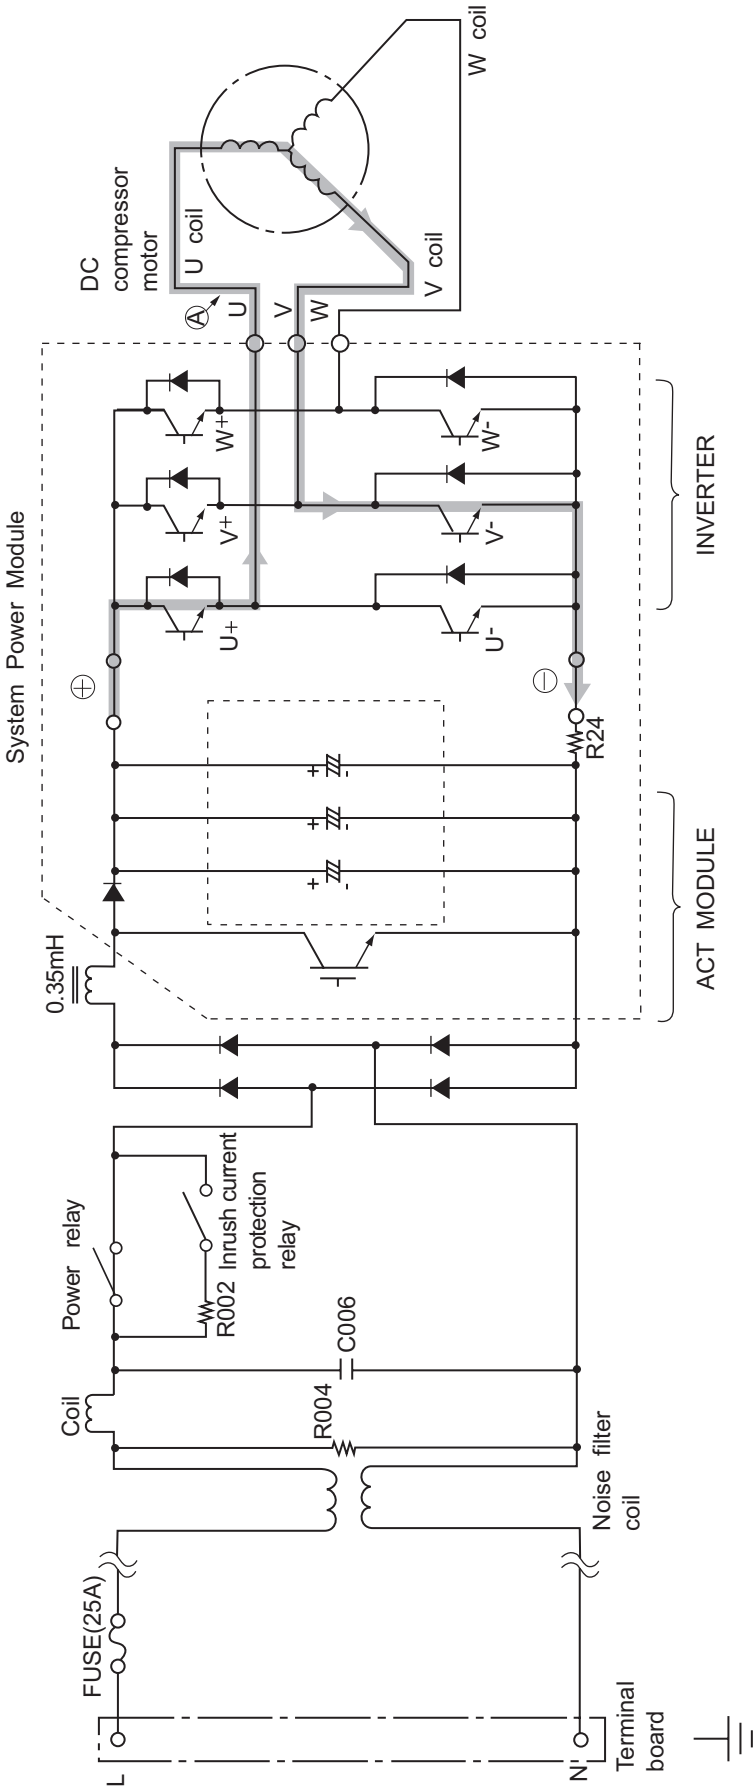
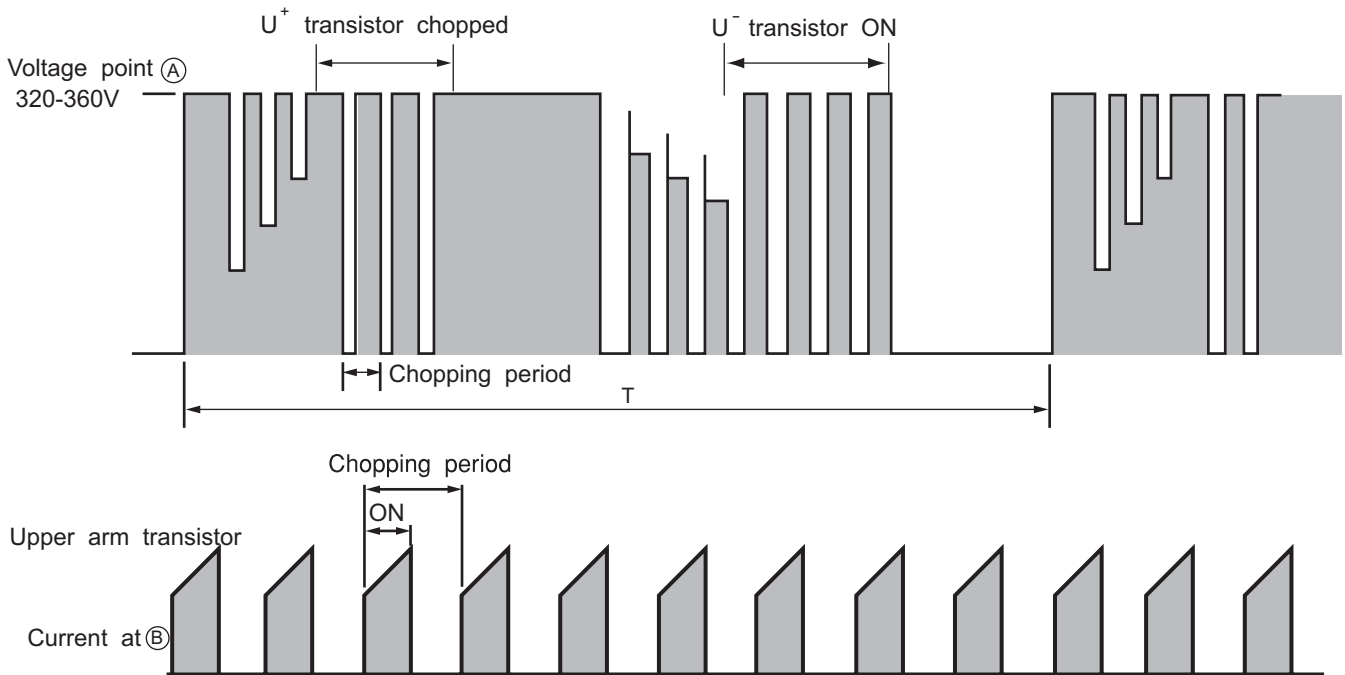

Fig. 3-1 System power module circuit (U⁺ is ON, V⁻ is ON)
Fig. 3-3 Voltage waveform at each point
- Fig. 3-1 shows the system power module and its peripheral circuits. (Current ACT module and power module are combined into one unit.) The three transistors on the positive ⊕ side are called the upper arm, and the three transistors on the negative ⊖ side, the lower arm.
※ At point E: U^+ is ON, V^- is ON (circuit in Fig. 3-1)
- Fig. 3-3 shows voltage / current waveform at each point shown in Figs. 3-1 and 3-4. First half of upper arm is chopper, second half is ON, and first half of lower arm is chopper, second half is ON.
- When power is supplied $U^+ \rightarrow U^-$, because of that U^+ is chopped, current flows as shown below; ⑥
- (1) When U^+ transistor is ON: $U^+ \text{ transistor} \rightarrow U \text{ coil} \rightarrow V \text{ coil} \rightarrow V^- \text{ transistor} \rightarrow \text{DC current detection resistor} \rightarrow \text{Point ⑥}$ (Fig. 3-1)
- Since current flows at point ⓑ only when U⁺ transistor and V⁻ transistor is ON, the current waveform at point ⓑ becomes intermittent waveform as shown in Fig. 3-3. Since current at point ⓑ is approximately proportional to the input current of the air conditioner, input current is controlled by using DC current (Id) detection resistor.